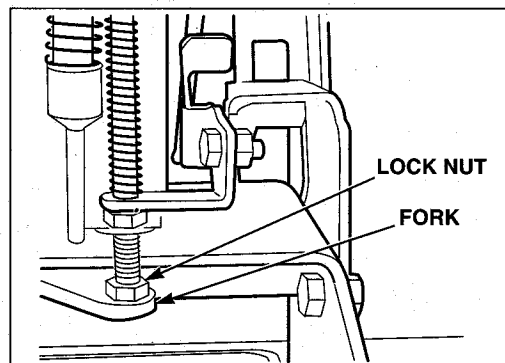

Figure 52
3. Using a ½ inch open-end wrench, loosen the lock nut, Figure 52.
6. Tighten the lock nut, Figure 52.